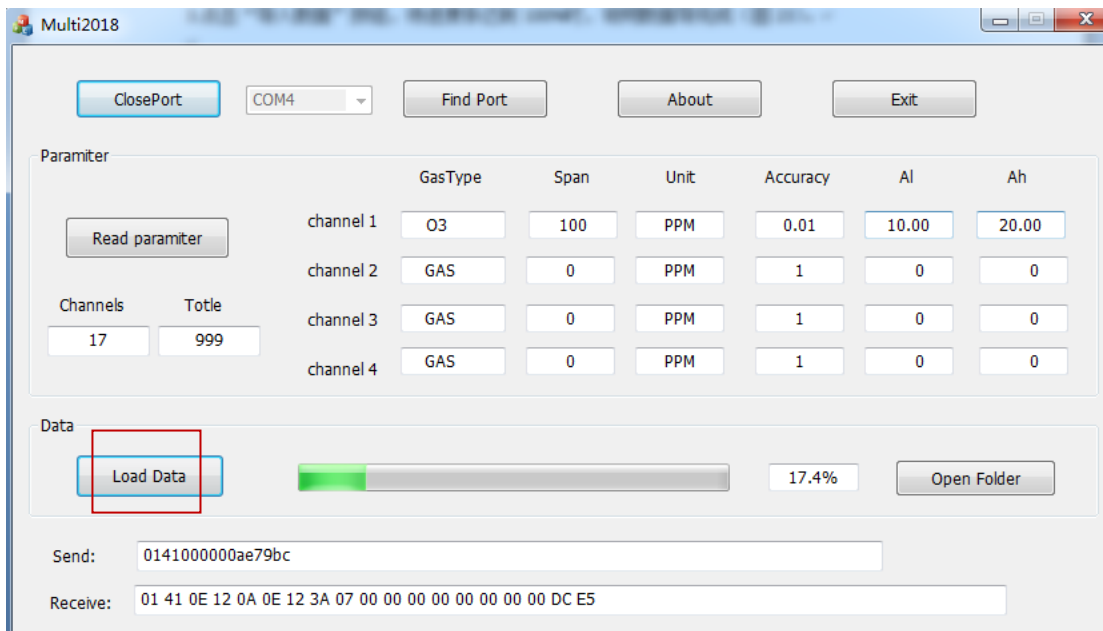
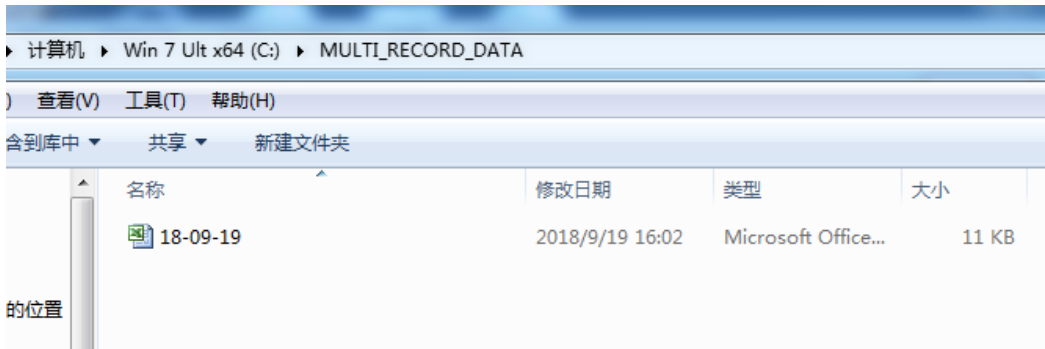

Figure 23
Figure 24
3) Click the "Load Data" button, when the progress bar reaches 100%, the data guide is completed (Figure 23).
- 4) After the data import is completed, click the “Open Folder” button (Figure 23), the “MULTI_RECORD_DATA” folder will be automatically played (Figure 24). And the EXCEL file will appear and which is the imported storage data file. Click to view the data (Figure 25);